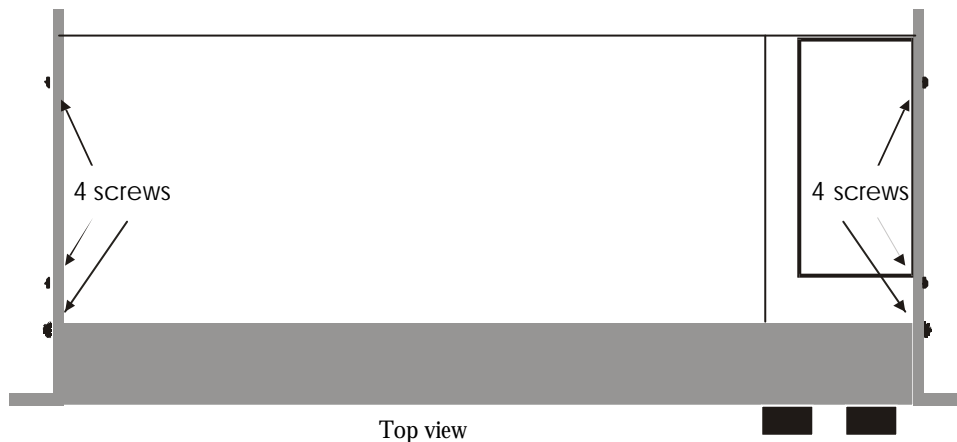

Fig. 4: Screws at side panels.
4. Remove side panels by unscrewing 4 screws at each side, see fig. 4.